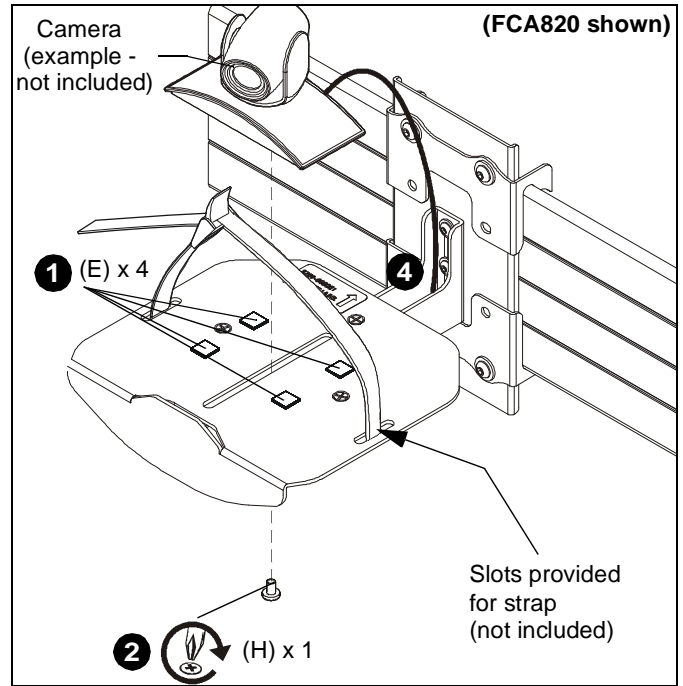
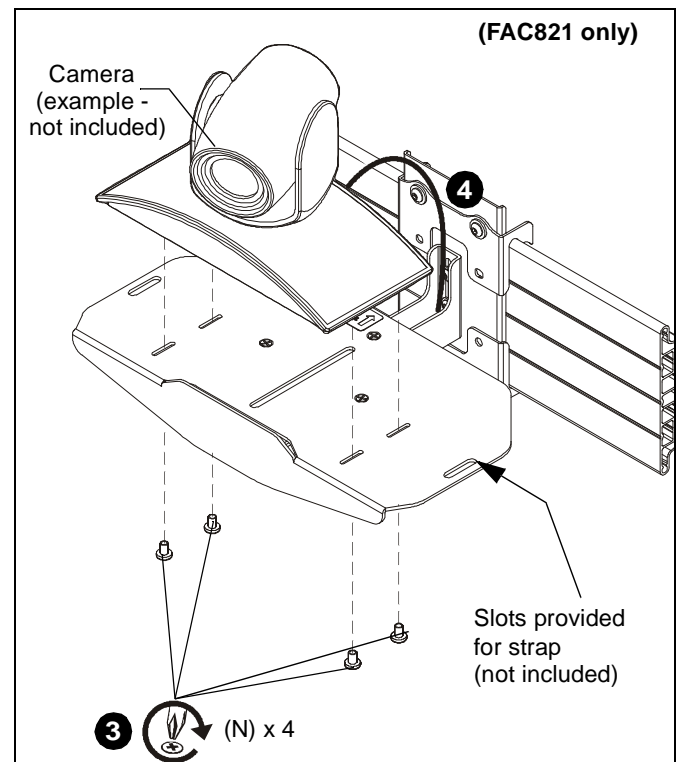

Figure 10
Figure 11
NOTE: OPTIONAL: Slots are provided in shelf for strap (not included) to hold camera in place. (See Figure 10)
1. Use up to eight adhesive hook and loop squares (E) to secure camera to shelf. Attach adhesive squares to bottom of camera first and then attach corresponding squares to shelf when the exact mounting location has been determined. (See Figure 10)
2. (Single Screw option) Install 1/4-20 x 3/8" Phillips pan machine screw (H) through mounting slot on shelf and into hole on bottom of camera. (See Figure 10)
3. (Multiple screw option - FCA821 only) Install four #4-48 x 1/4" Phillips pan machine screws (N) through outside mounting slots and into holes on bottom of camera. (See Figure 11)
4. Route cable from camera towards back of shelf and down behind the FCA820/821. (See Figure 10) and (See Figure 11)